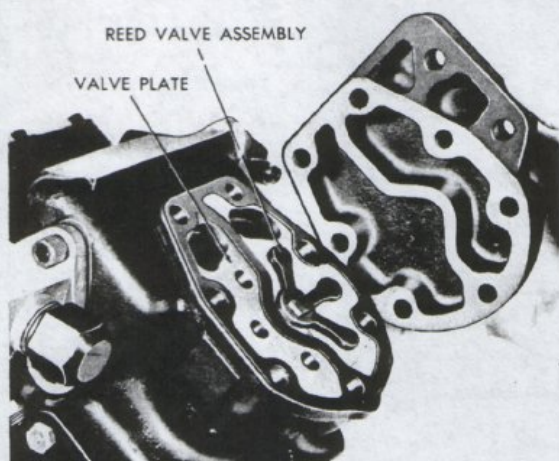

Fig. 45. Valve Plate — Installed Position
1. The valve plate and cylinder head must be assembled with the reed valve assembly positioned, as shown in Fig. 45.